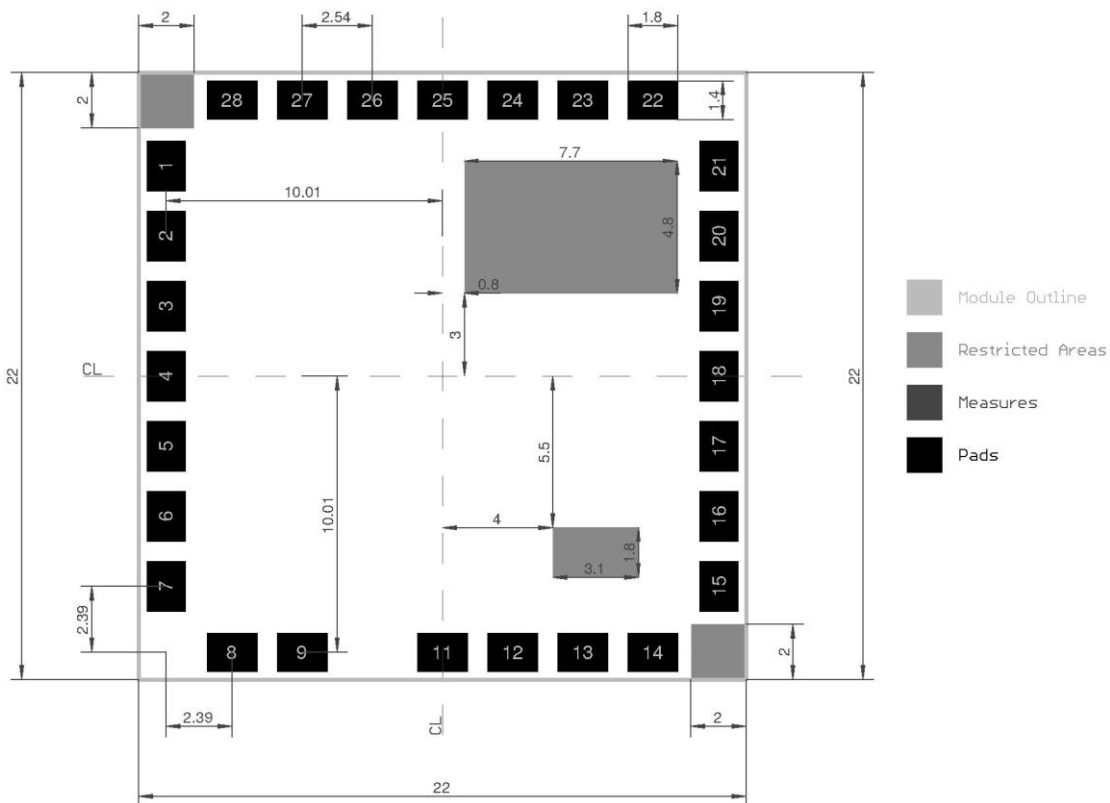

Figure 5 PLC Stamp micro 2 Footprint
4. The drawing in Figure 5 shows the top view on the footprint (as if you look through the module).